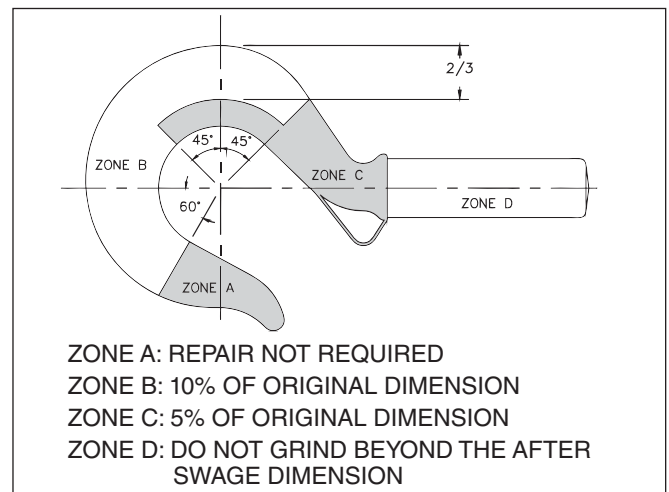

Figure 1
- Always make sure hook supports the load. The latch must never support the load (See Figures 1 & 2).